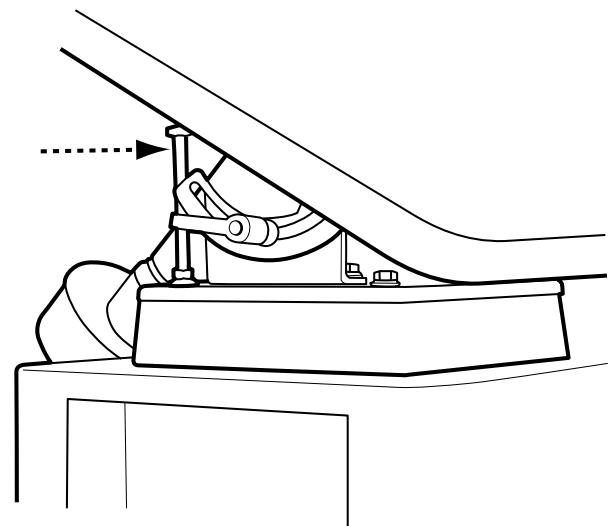

FIGURE 12
- Adjust the fixed stop as shown in Figure 12.